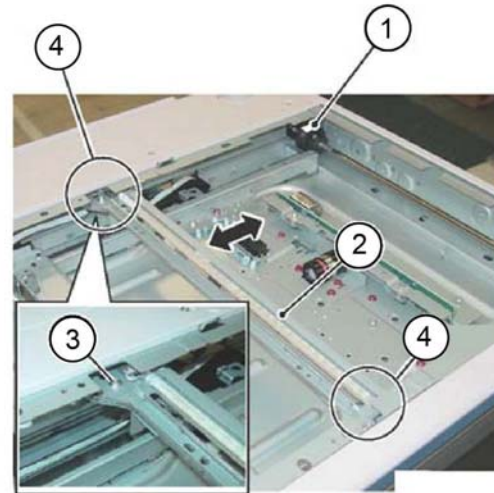

Figure 12 Full rate carriage attachment
7. Loosely attach the cable to the full rate carriage, Figure 12:
- a. Remove the tape (1).
- b. Move the full rate carriage (2) to the cutout (4) in the frame.
- c. Loosely attach the cable to the full rate carriage (3).